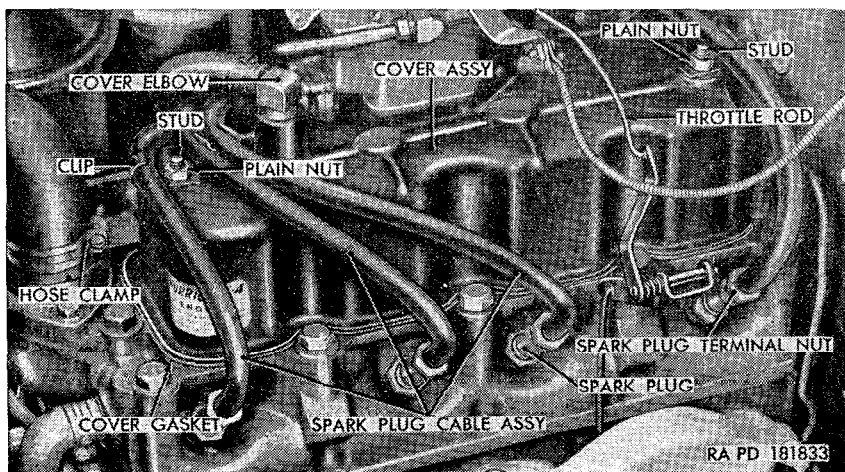

Figure 40. Rocker arm cover assembly installed.
- (1) Disconnect the spark plug cables from plugs and free the cables from the clips (fig. 40) that retain them.
- (2) Screw the rocker arm cover elbow (fig. 40) into the opening provided at the top front of the rocker arm cover assembly. Position elbow so its opening faces approximately  $30^\circ$  to the right.
- (4) Position the rocker arm cover in place on top of the cylinder head. Install a  $\frac{5}{16}$ -inch gasket-type copper washer on each stud. Install three spark plug cable clips (fig. 40) with the longest first and following with the next longest and then the shortest in that order on the front stud. Install one short clip on the rear stud. Secure the cover by installing one  $\frac{5}{16}$ -inch plain nut on each stud.
- (8) Connect the spark plug cables (fig. 40) to the spark plugs. Secure each cable in the clips installed on the studs that secure the rocker arm cover.
- (9) Adjust the hand throttle control wire stop (par. 135*h*(1)). Lower the hood (par. 255*b*).